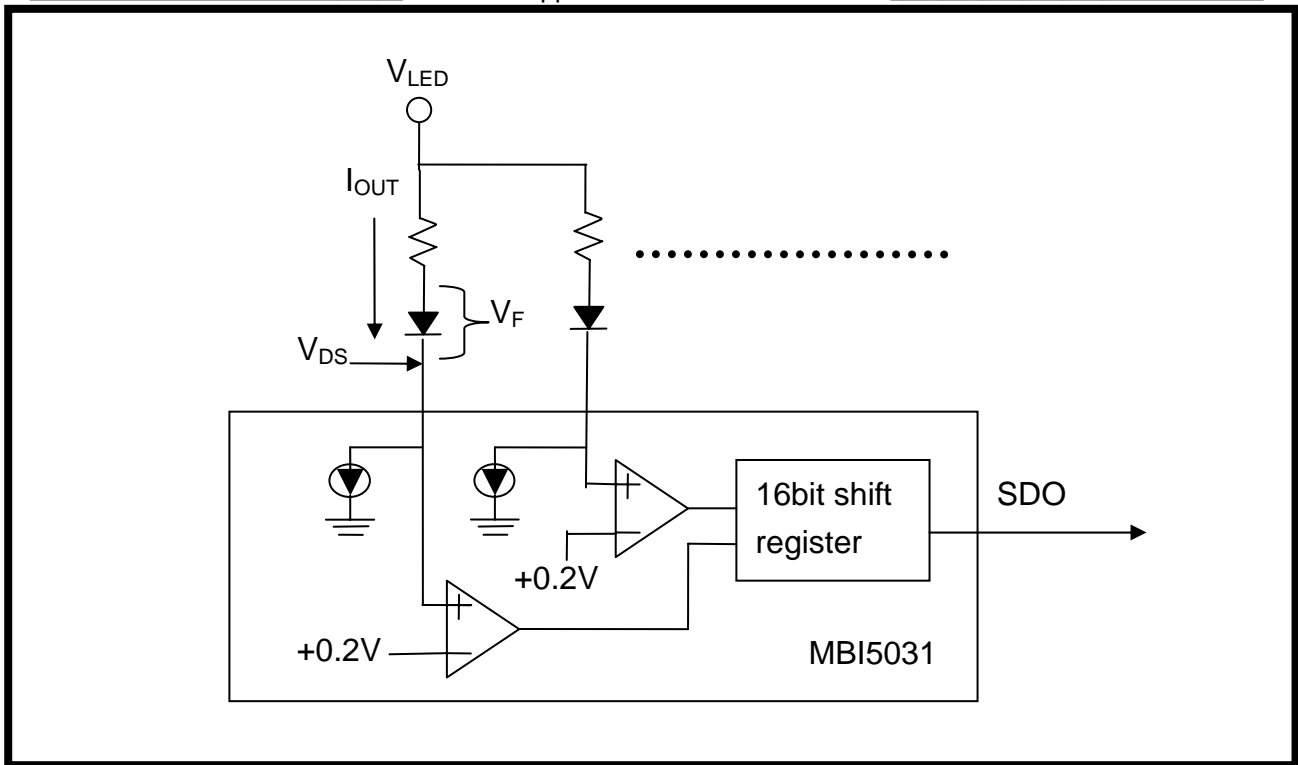

Fig. 15. The function block of MBI5031 error detection
3. The error detection principle of MBI5031 is shown as Fig. 15.